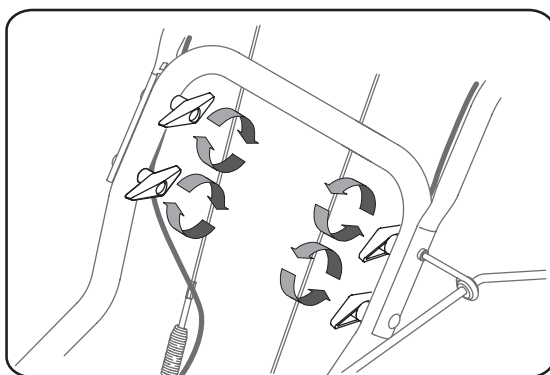

Figure 3-2
- Remove the lower handle knobs, washers and carriage bolts from each side of the upper handle. See Figure 3-2.